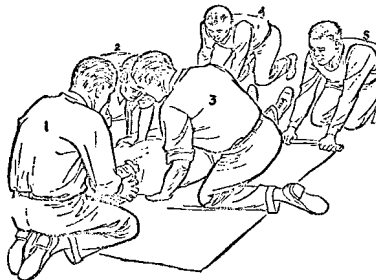

FIGURE 36. Pulling the Blanket Through
- (5) Step 5--Nos. 4 and 5 grasp the bottom pleat of the blanket and pull the blanket under the victim while Nos. 1, 2, and 3 hold the upper portion of the victim's body in place. (See Figure 36.)